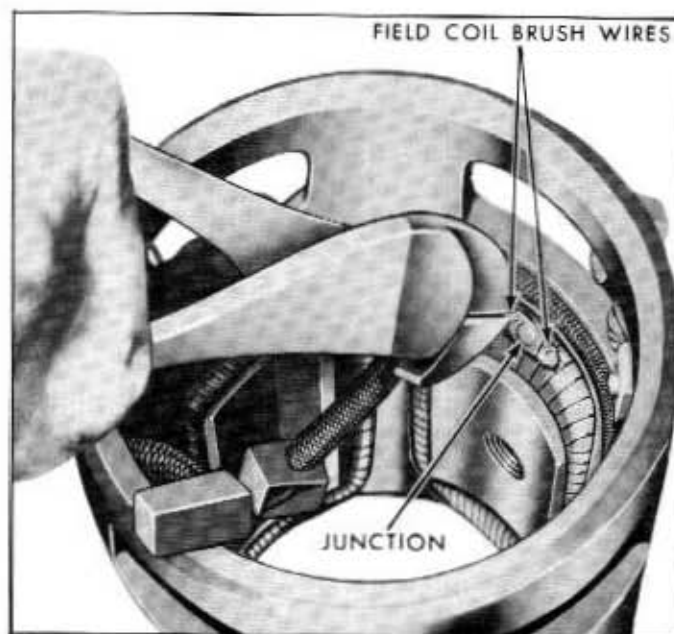

Fig. 9-36—Field Coil Brush Wire Terminal—(60C-7694)
8. Cut the two field coil brush wires at the welded field coil junction as shown in figure 9-36.